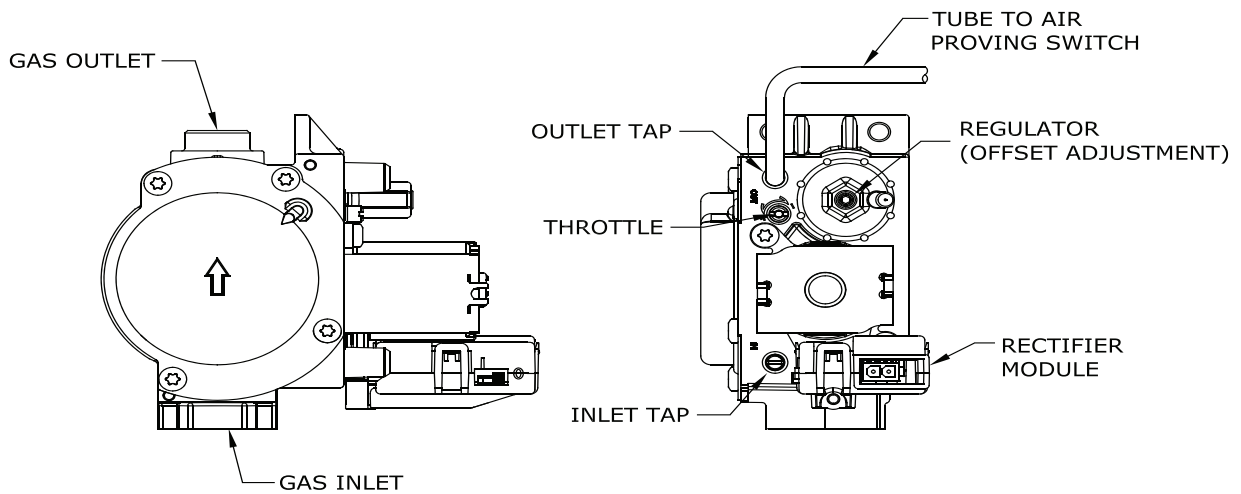

Figure 9: Gas Valve Detail
11. (on bench) Remove (2) screws connecting gas valve to venturi assembly.
12. Remove (3) screws connecting venturi assembly to blower.
13. Replace natural gas venturi assembly with propane (LP) venturi assembly, ensuring O-ring between blower and venturi assembly is in place and arrow on venturi points up.
14. Secure venturi assembly to blower using (3) screws removed in step 12.
15. Ensure coupling between venturi assembly and gas valve is in place and secure using (2) screws removed in step 11.
16. Reconnect cold burner door to heat exchanger using (4) 10mm nuts removed in step 9.
20. Before attempting to start the boiler, turn the throttle (Figure 9) clockwise until it stops (several turns).